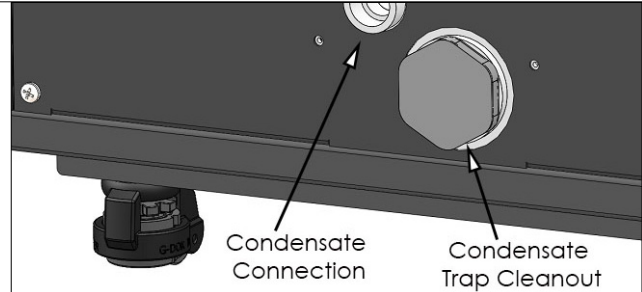

Figure 31 - Condensate Connection and Cleanout Locations
8. Local building codes may require an in-line neutralizer to be installed (not included) to treat the condensate. See Figure 31. If required by local authorities, a condensate filter of lime crystals, marble, or phosphate chips will neutralize slightly acidic condensate (p/n 7350P-611 available from HTP). Follow all the installation instructions included with the neutralizer. If a neutralizer is installed, periodic replacement of the limestone (or neutralizing agent) will be required. The rate of depletion of the limestone varies with usage of the water heater. During the first year of water heater operation, check the neutralizer every few months for depletion.